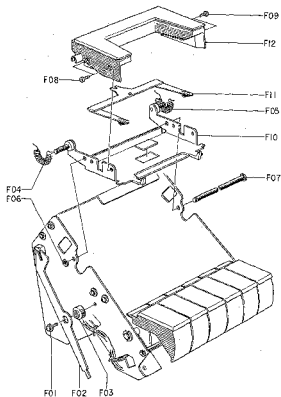

Fig. 3.5
Refer to Fig. 3.5. Remove mechanism ass'y referring to item 3.6. Remove F01 through F07.
Refer to Fig. 3.5. Remove cassette case ass'y referring to item 3.10. Remove F08 through F12.